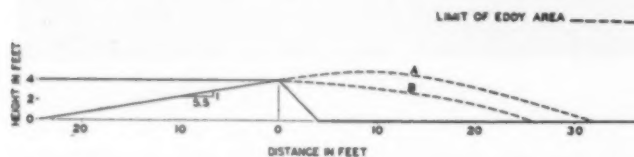
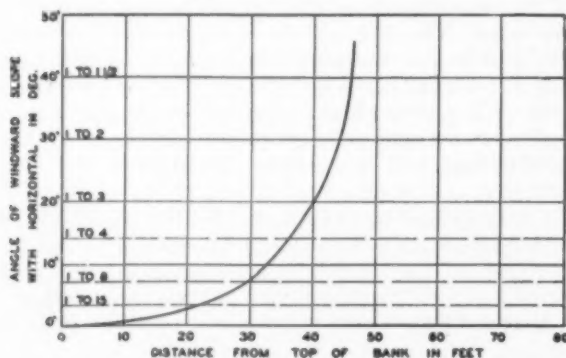

Fig. 3.—Relationship Between the Windward Slope of Embankment and Length of Eddy Area
Fig. 4.—Relationship Between Length of Eddy Area and the Grade of the Slope on the Windward Side of the Embankment Face
The grade of the windward slope of the embankment will effect to a certain extent the length of the eddy area. This is shown in Fig. 3. Previous tests conducted by the Michigan State College Experiment Station (2) show that for a slope of 1 ft. vertical to 2 ft. horizontal the increase in length of the eddy area is 19 ft. in the case of a 4 ft. embankment. The results of other slopes are illustrated by the curve in Fig. 4.